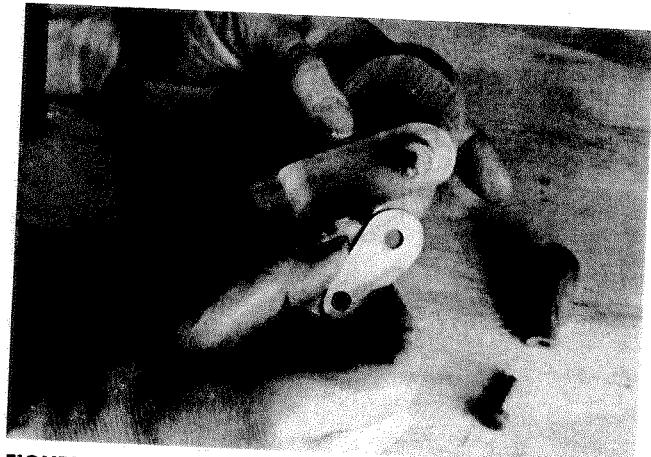

FIGURE 3-10
- 4** When you have what you consider is a good disk—nicely sanded to a smooth finish—run it through with a $\frac{1}{4}$ "-diameter shaft hole, and then have a trial fitting (Fig 3-10).